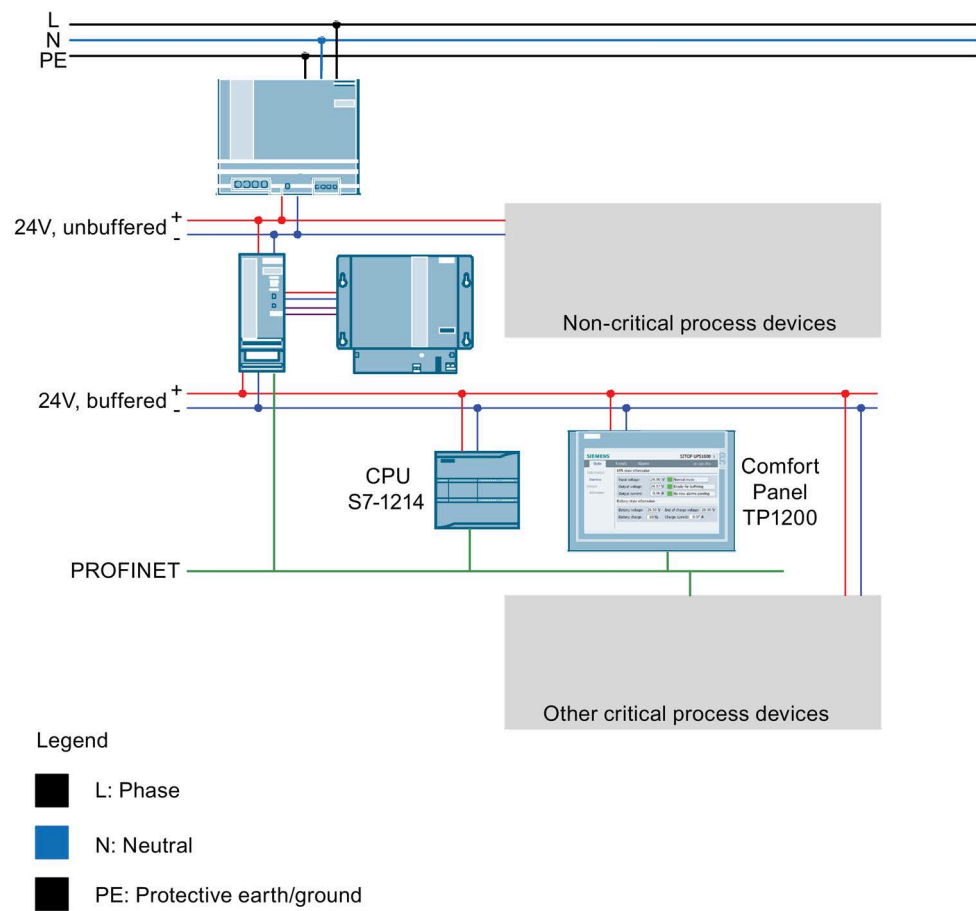

Figure 4-1
The table below describes the function of the Hardware (HW) components used in figure 4-1: